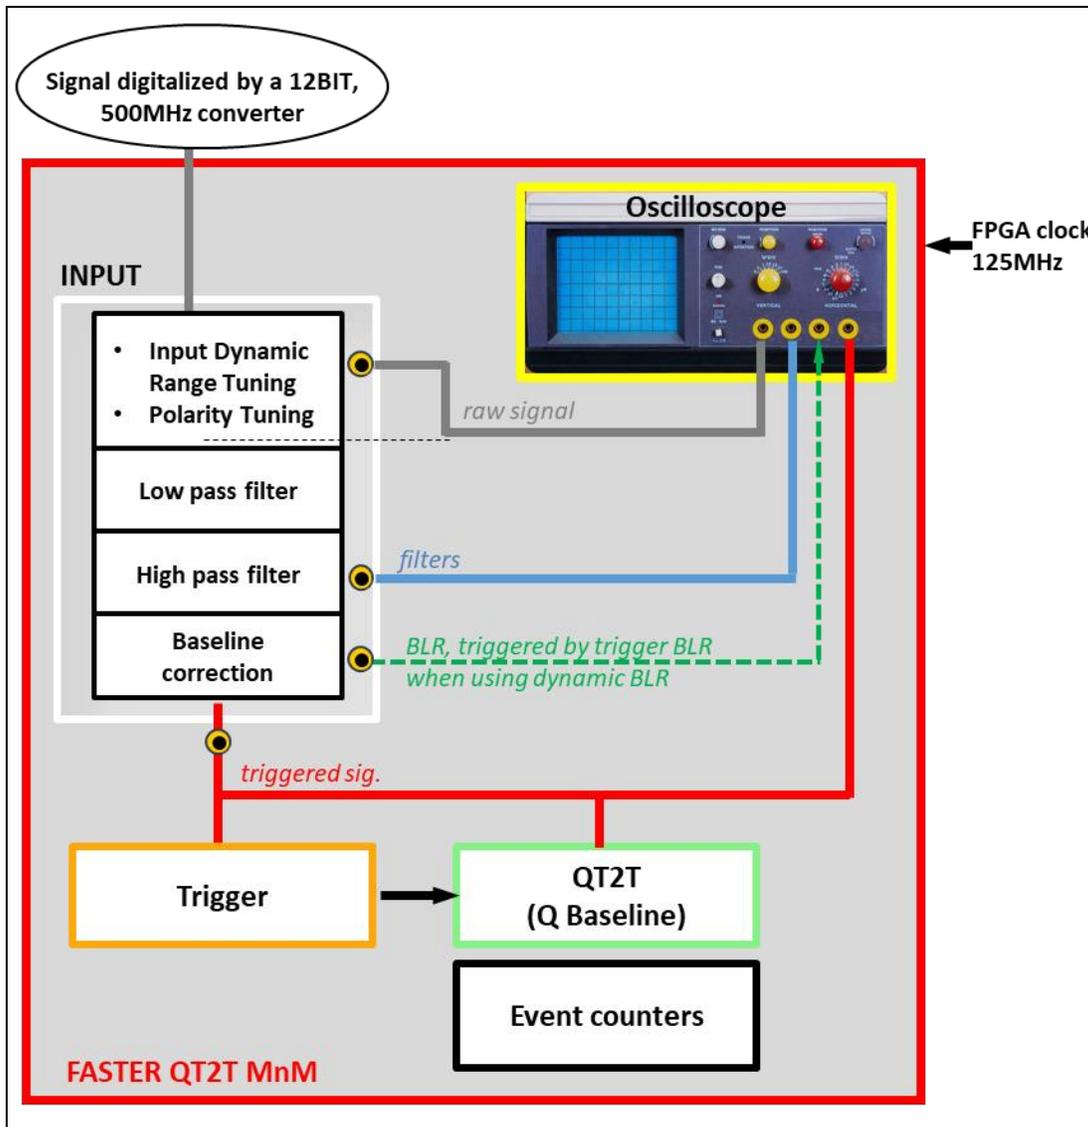
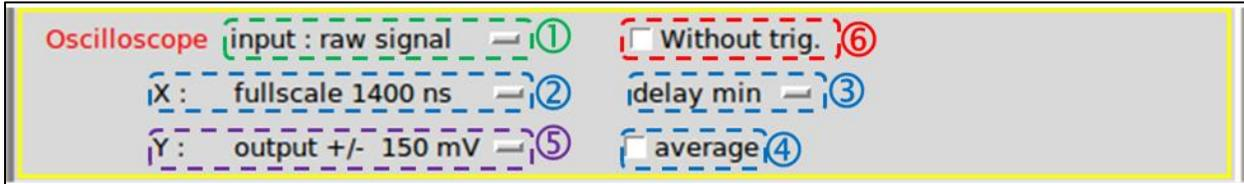
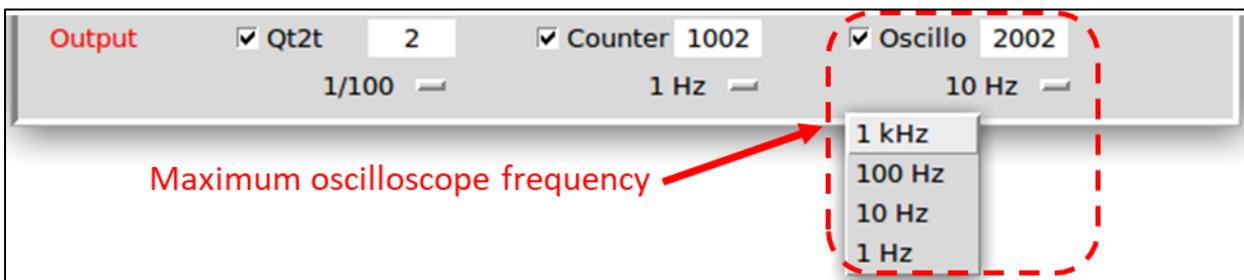

Figure 5: Diagram of FASTER QT2T MnM. The border colour of each box is as the one of the MnM interface.
Figure 6: Oscilloscope module.
Figure 7: Maximum frequency of the oscilloscope frame definition
The interface includes several tuning modules, synthetically described in Table 1 and Figure 5. Each module has some parameters that are adjustable by the user to achieve the best performance.
The signal, which is displayed by the oscilloscope module, is defined by parameter ① (Figure 6). Each ● on Figure 5 indicates the location of an Oscilloscope module input. The use case of this signal is described in Table 2.
If "without trig" is checked in ⑥ (Figure 6), Oscilloscope module does not use the Trigger module or BLR Trigger to start storing an oscilloscope frame, but it uses a clock, whose frequency is defined in the "Data output" module (cf. Figure 7).
If “without trig” is unchecked in ⑥ (Figure 6), the Oscilloscope module is woken either by the BLR trigger if the displayed signal is “trigger BLR”, otherwise by the Trigger module. In all case, the maximum oscilloscope frequency is defined by the Data output module.